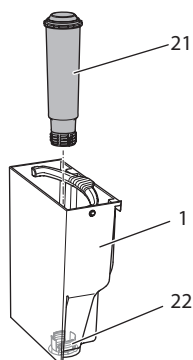

Fig. 15: Screwing/Unscrewing the water filter
- Remove the water filter (see Fig. 15 on page 44).
9. Insert a new filter in the water tank (see *Fig. 15*).
3. Remove the water filter (see *Fig. 15*).